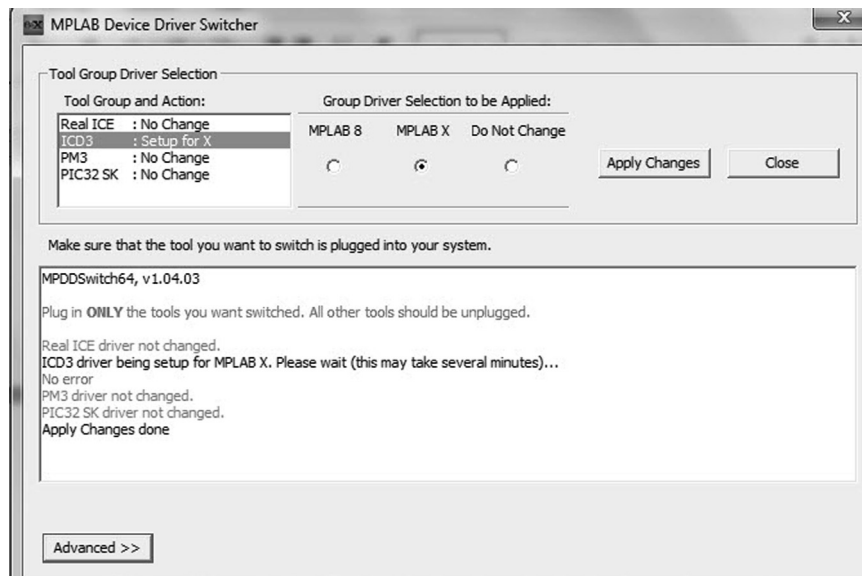

Figure 3.20: Select the ICD 3 Driver.
- Select ICD3 and MPLAB X, and click *Apply Changes* as in Figure 3.20.